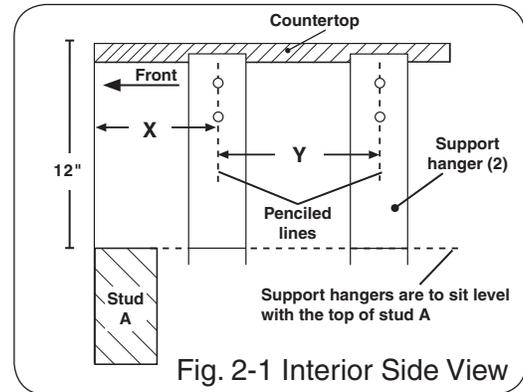
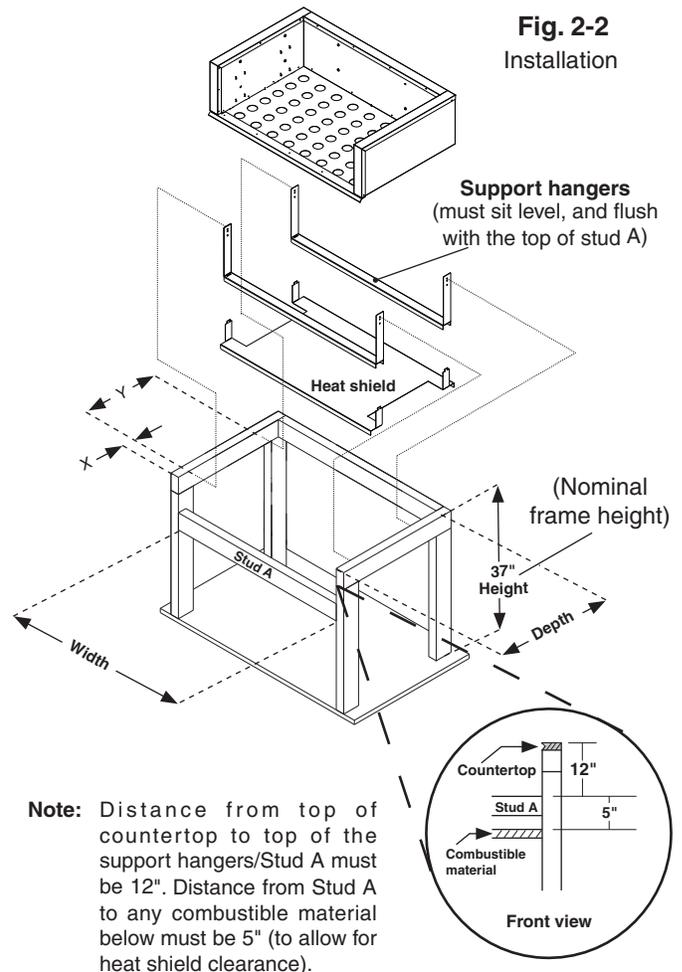

Fig. 2-1 Interior Side View
Fig. 2-2
The insulating liner kit includes the pre-assembled liner, two support hangers, and a heat shield. Liner cutout dimensions are given in Table 1. A nominal $1/16$ " gap around the back and sides of the liner is recommended for ease of installation. A minimum of 5" from combustible material is required directly below the top of the support hangers/Stud A, to allow for clearance of the heat shield (See Fig. 2-2). If a complete combustible shelf is installed beneath the heatshield, it must contain two ventilation cutouts. The cutouts must be located directly below the right hand and left hand ends of the heatshield. Reference Table 2 for dimensions. If the countertop thickness exceeds 2", new screw holes must be made in the support hangers.
† See Fig. 2-1 for hanger setback detail
1. On the inside of the grill opening, pencil in a vertical line X" from the front of the enclosure. Then, pencil in a second line, Y" (back) from the first line. (See **Table 1** and **Fig. 2-1** for dimensions). Do the same on the opposite side as well.
Note: The distance between lines 1 and 2 must be Y" to allow for proper alignment and installation of the heat shield with the support hangers (see Fig. 2-1 & Fig. 2-2).
2. Align the top of the support hangers level and flush with the opening 12" down from the countertop (i.e., the top of stud A). Line up hanger holes with your penciled lines (see Fig. 2-1 & Fig. 2-2) and screw into position.